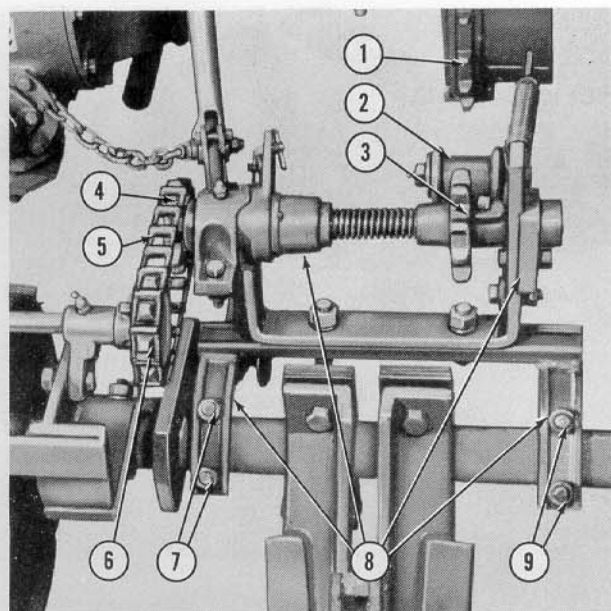

Figure 17
- Place the tractor drive sprocket assembly (1), Figure 17, over the right rear brake drum and secure with the sprocket brake drum clamp.
- Mount the countershaft assembly (8), Figure 17, on the right end of the tool bar as shown and attach it *loosely* with two U-bolts (7) and (9).
- Slide the countershaft assembly (8), Figure 17, on the tool bar until the sprocket (4) is aligned with the fertilizer drive-shaft sprocket (6).
- Securely tighten the four nuts on the U-bolts (7) and (9), Figure 17, *evenly*.
- c. Attach the No. 32 chain (5) to sprockets (4) and (6), Figure 17, and the No. 51 chain to the tractor drive sprocket (1) and driven sprocket (3).
- e. Place the lower strand of the No. 51 chain over the roller idler (2), Figure 17.